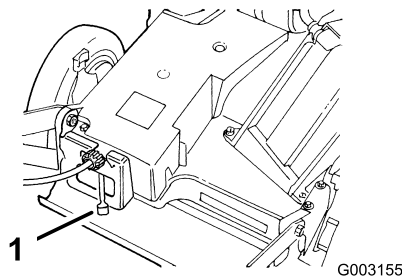

Figure 14
4. Move the ground speed control to the Neutral (N) position (Figure 14).